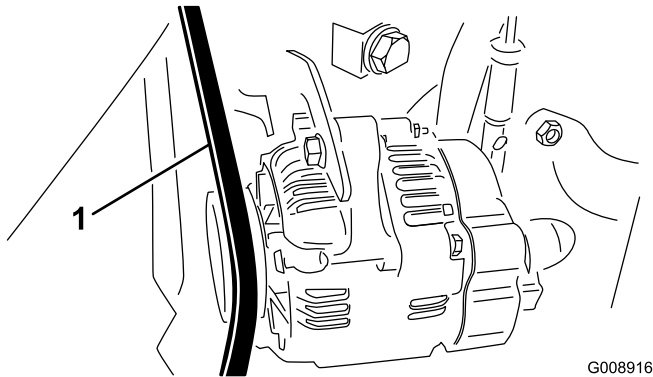

Figure 72
2. Check the tension by depressing the alternator/fan belt midway between the alternator and crankshaft pulleys with 30 N-m (22 ft-lb) of force (Figure 72).